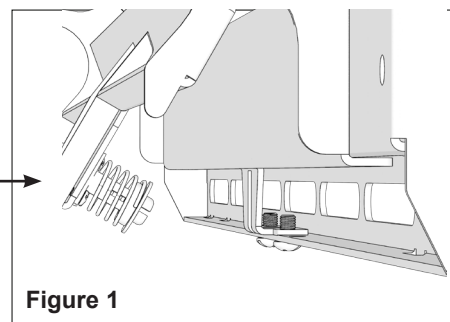

Figure 1
- 1) Push evenly in the front of the PFW 6870 to release the single latch spring lock (Figure 1).